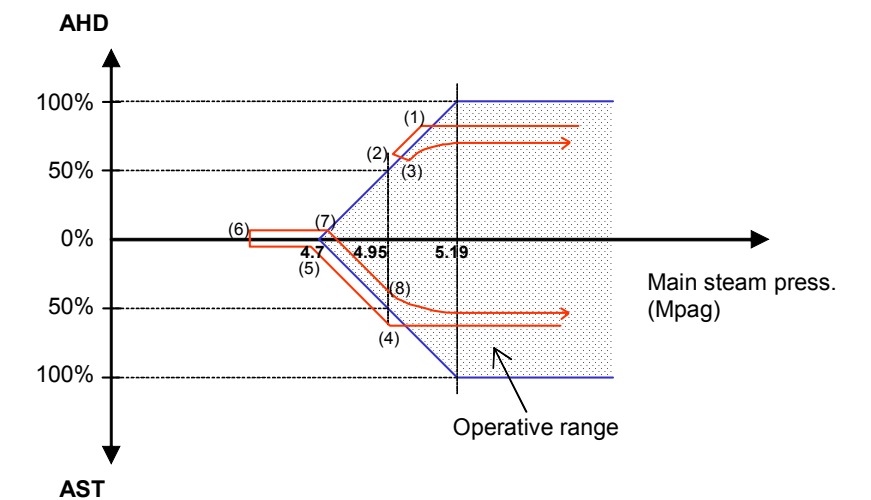

Figure 1-13 Operative Range of Maneuv. Valve
- (1) The manoeuvring valve lift is limited to keep the operative range, as shown in Figure 1-13. When the main steam pressure becomes low low(5.2 MPag), if the valve lift is going out of range, the manoeuvring valve will close to a point where the actual pressure balances to valve lift along the border of the range with the propeller revolution slowing down.
- (2) When the low pressure condition becomes normal, the valve lift is automatically increased to the lever position according to the time program described in the paragraph on the Time Program in this paper.